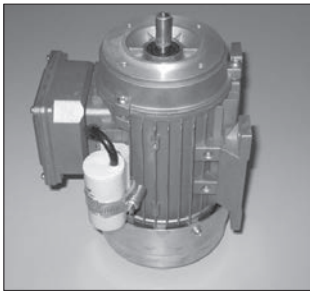

Figure 1
2. Place motor on the fan end. See figure 1.